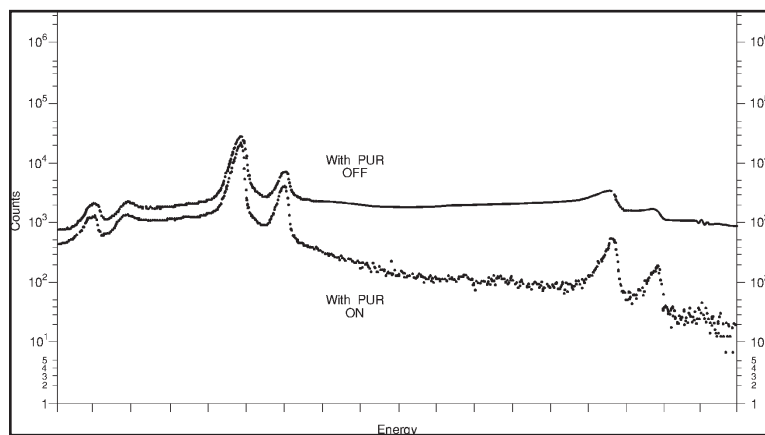

Figure 27 Comparing  $^{57}\text{Co}$  Spectra w/ PUR On and Off
10. Compare the two spectra, LTC On and LTC Off, overlapping them with the compare function, as seen in Figure 27.